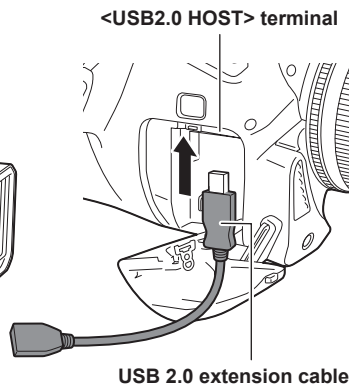

Fig. 2
- 2 Connect the USB 2.0 extension cable (optional: type A male/female, 0.2 m) to the <USB2.0 HOST> terminal. (Fig. 2)